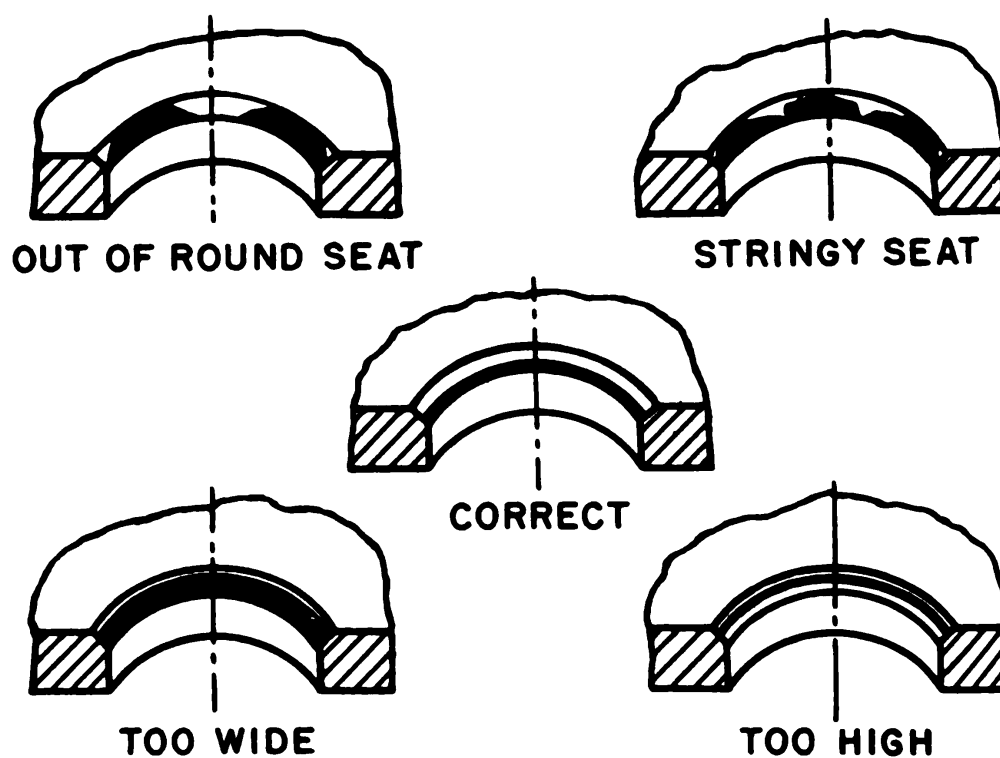

Figure 14-8.—Correct seat and various imperfect seats.
**SPOTTING-IN.** To spot-in a valve seat, first apply a thin coating of prussian blue evenly over the entire machined face surface of the disk. Then insert the disk into the valve and rotate it a quarter turn, using a light downward pressure. The prussian blue will adhere to the valve seat at points where the disk makes contact. Figure 14-8 shows what a correct seat looks like when it is spotted-in, and also shows what various kinds of imperfect seats look like.